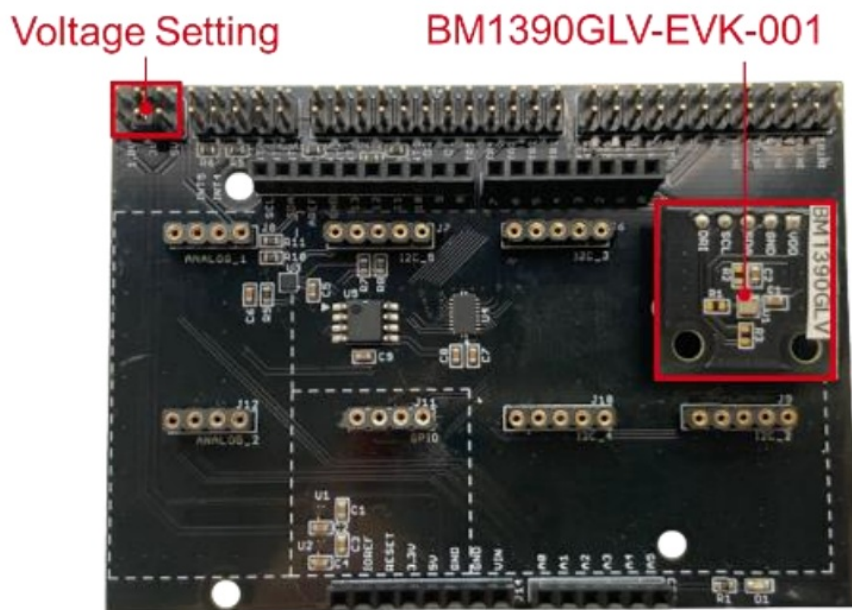

Figure 2. Board Connection and Voltage Setting
2. Connect BM1390GLV-EVK-001 to the socket of I2C area on Shield for Arduino. (Figure 2)
3. Set the voltage of Shield for Arduino to 1.8V or 3.0V. (Figure 2)